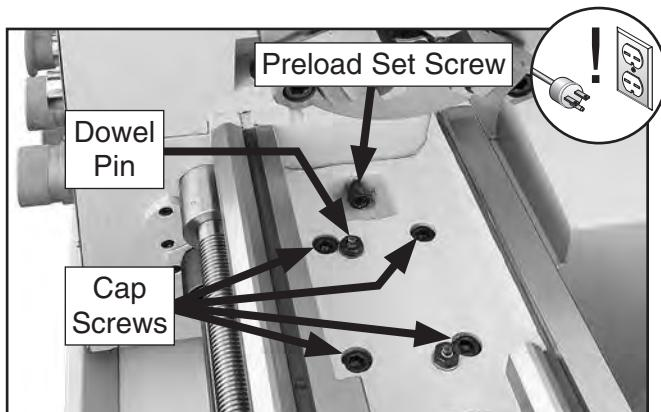

Figure 130. Gap retaining fasteners.
2. Remove (4) cap screws that secure gap to bed (see **Figure 130**).
3. Tighten dowel-pin jack nuts (see **Figure 130**) to draw pins from gap.
4. Loosen preload set screw (see **Figure 130**) a few turns until it no longer contacts headstock.